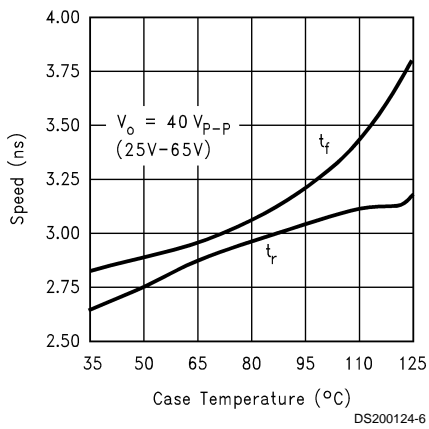

FIGURE 4. Speed vs Temp.
*Figure 4* shows the performance of the LM2412A in the test circuit shown in *Figure 2* as a function of case temperature. *Figure 4* shows that both the rise and fall times of the LM2412A become slightly longer as the case temperature increases from 40°C to 125°C. In addition to exceeding the safe operating temperature, the rise and fall times will typically exceed 3 nsec. Please note that the LM2412A is **never to be operated over a case temperature of 100°C**. In addition to exceeding the safe operating temperature, the rise and fall times will typically exceed 3 nsec.